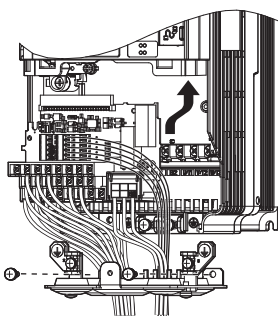

Figure 6.24 Install the Terminal Board
1. After wiring the main circuit, connect the terminal block to the regenerative unit as shown in Figure 6.24. Use the installation screw to fasten the terminal block into place.